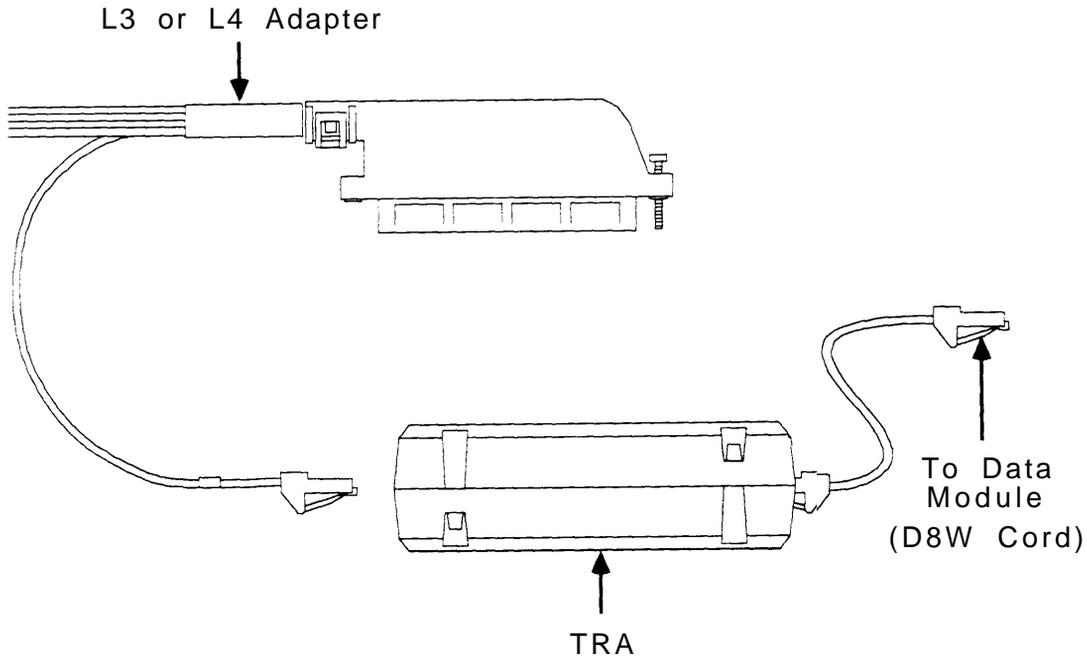

Figure 44: Terminating Resistor and The L3 or L4 Adaptor
- If you are using the L3 or L4 adapter to connect the modules with the digital lines, plug one end of the TRA into the jack on the data module marked **LINE**. Plug the appropriately numbered loose end from the L3 or L4 adapter into the other end of the TRA (Figure 44).